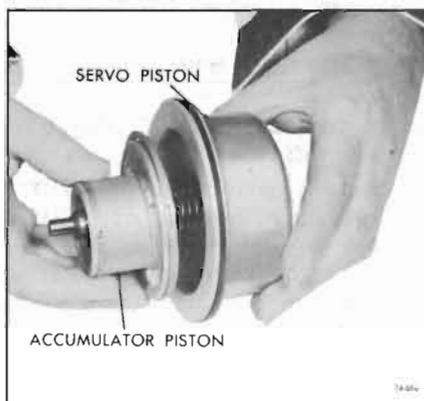

Figure 74-604
3. Remove rear servo piston and seal from band apply pin. See Figure 74-604.